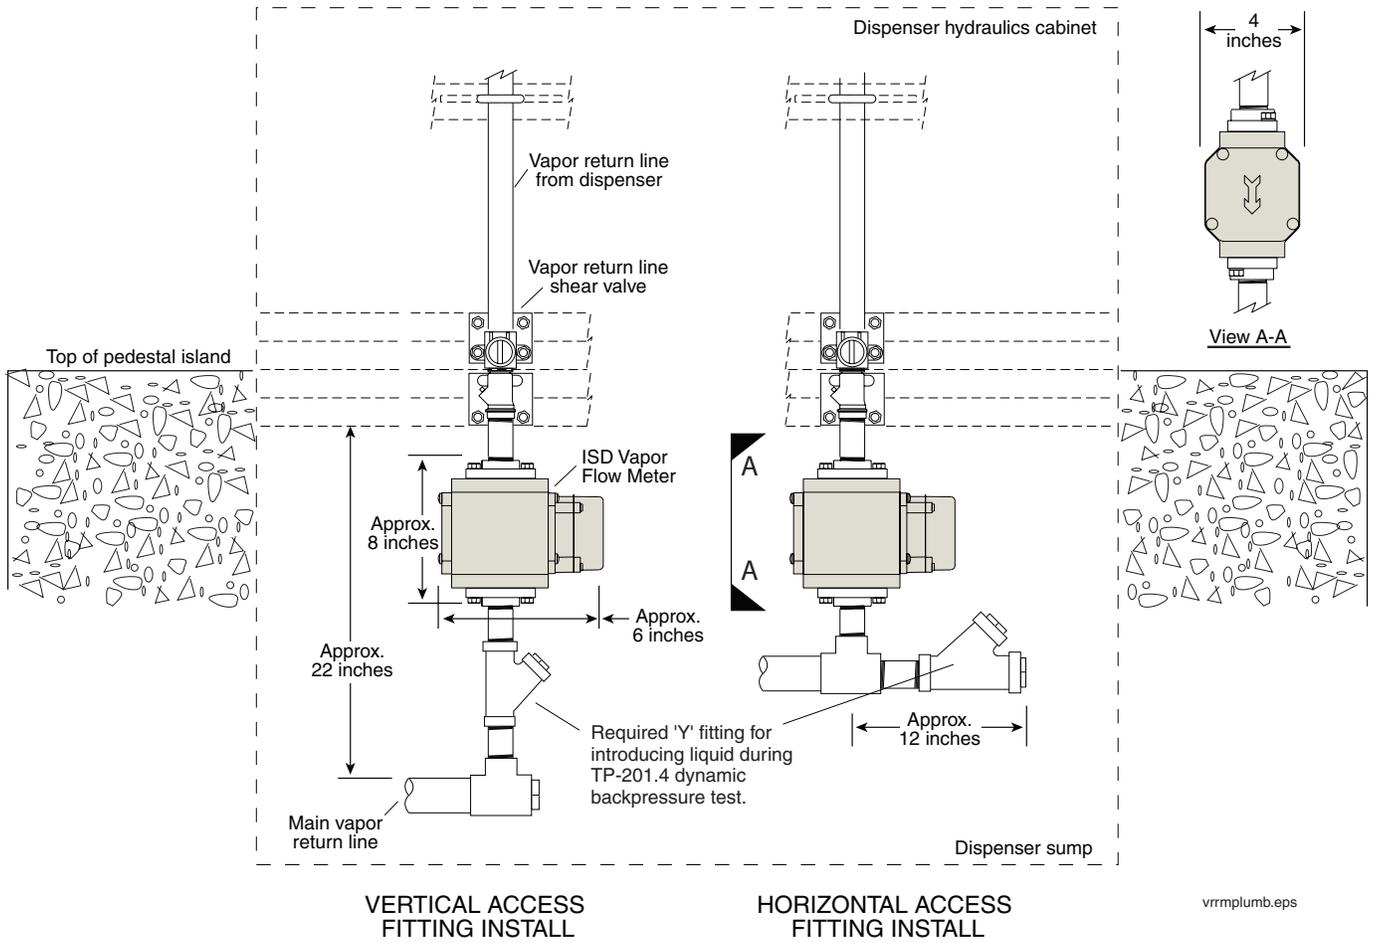

Figure 3. Example flow meter installations with approximate clearances
| Figure 3. | Example flow meter installations with approximate clearances ..... | 7  |
4. Remove any unneeded field installed plumbing between the vapor shear valve and the vapor return line fitting. Figure 3 shows two example installations of the Vapor Flow Meter with the required lateral or wye fitting for running the TP-201.4 back pressure test. Approximately 3 inches of clearance is required on both sides of the piping to accommodate the width of the meter body.